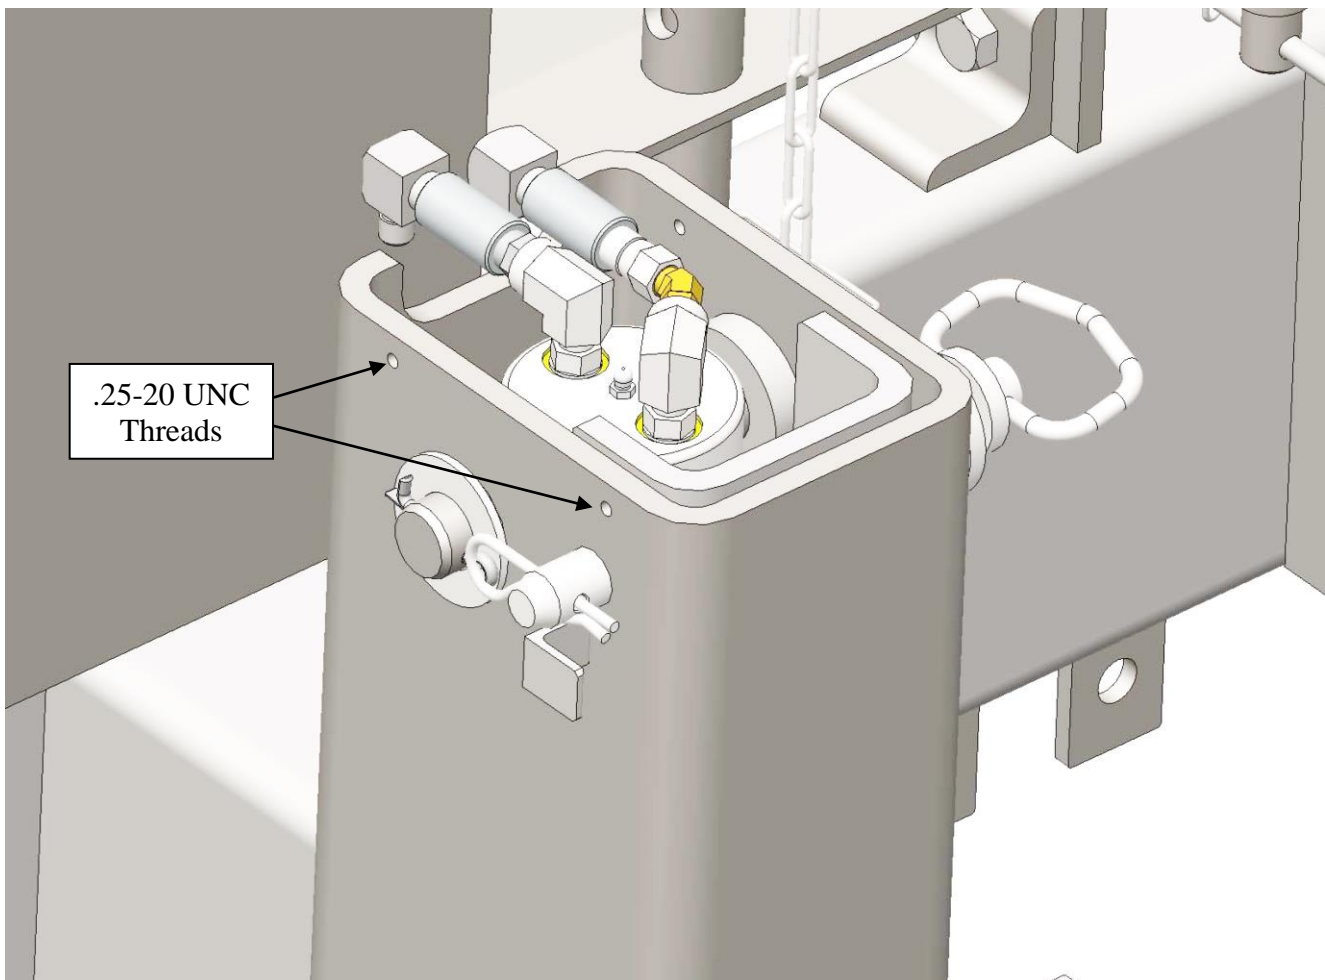

Figure 1 .25-20 UNC Hole Location (8 places)
1. Position guard on top of the hydraulic jackstand, transfer hole locations from guard, drill and tap .25-20 UNC threads through tube wall (8) places (see Figure 1).